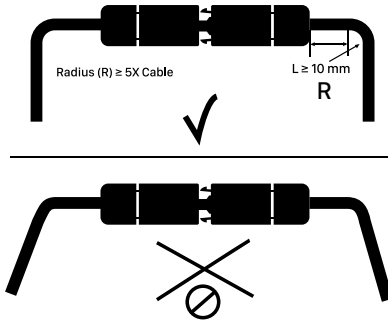

Figure 12. Cable and Connector/ Dây cáp và đầu nối
- The cable must not be bent or crushed on the direct exit of the cable screw joint include connecter and box. A minimum bending radius $R \geq (5 \times \text{cable diameter})$ must be maintained. The cable must be routed in a way that tensile stress on the conductor or connections is prevented. Please refer to the following picture (figure 12):